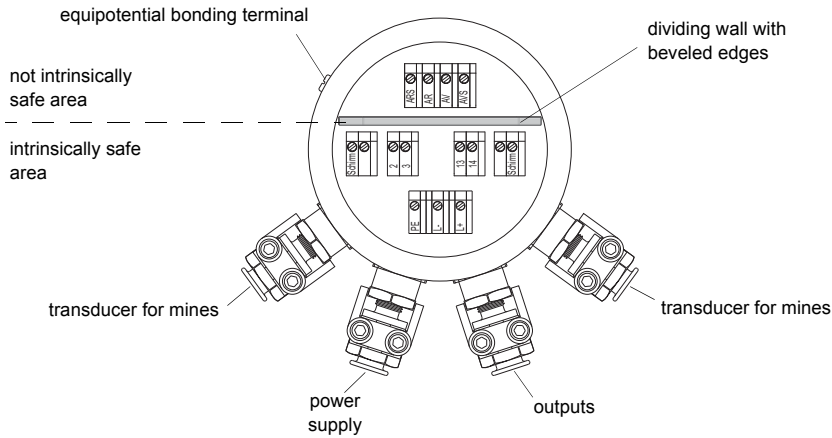

Fig. 8.2: Connections of the Transmitter
- Remove the cable gland for mines M16 for the connection of the transducers (see Fig. 8.2).
The external protective earth is connected to the equipotential bonding terminal on the housing of the transmitter (see Fig. 8.2).